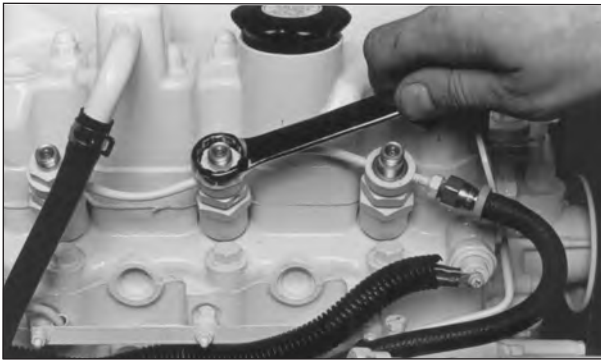
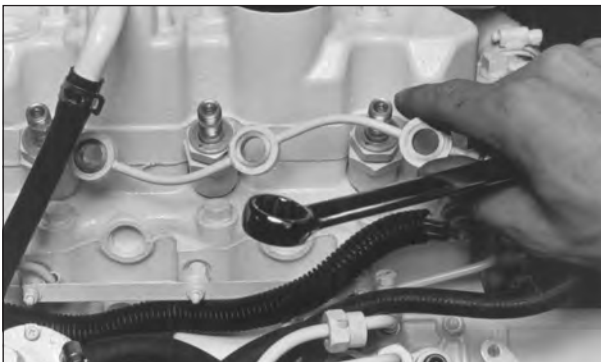

Figure 14: Remove return line nuts.
Figure 15: Remove return line.
- d. Remove the return line retaining bolts (Figure 14). Remove the return line (Figure 15).